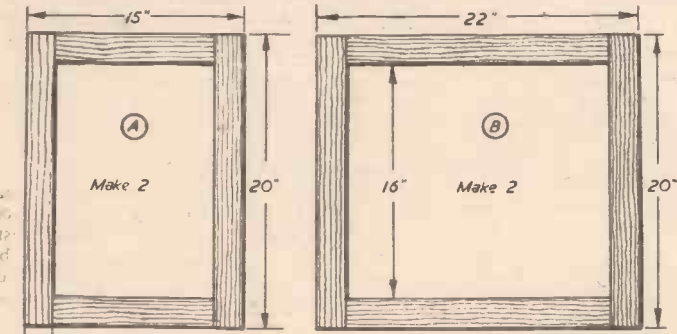

Fig. 1.—Details of the frames.
Procure some wood of  $\frac{1}{2}$  in.  $\times$  2 in. section and make up five frames, two measuring 15 in.  $\times$  20 in., two 22 in.  $\times$  20 in. and one 16 in.  $\times$  22 in., as in A, B and C, Fig. 1. One of the wide frames (B) should have a long side divided into two lengths, each 1 in.  $\times$  22 in.
each of the four side frames (A and B in Fig. 1).
2 in.  $\times$  10  $\frac{1}{2}$  in., each one having a single edge bevelled at 30 deg. These fit into the slots of the louvre holders on the two narrow side frames (A in Fig. 1).
Next, 44 louvres of type C, 17  $\frac{1}{2}$  in.  $\times$  2 in., are cut out and bevelled on one edge. These fit into the louvre holders on the wide frames (B in Fig. 1).
This frame (C in Fig. 1) simply has three overlapping pieces of wood screwed to it,